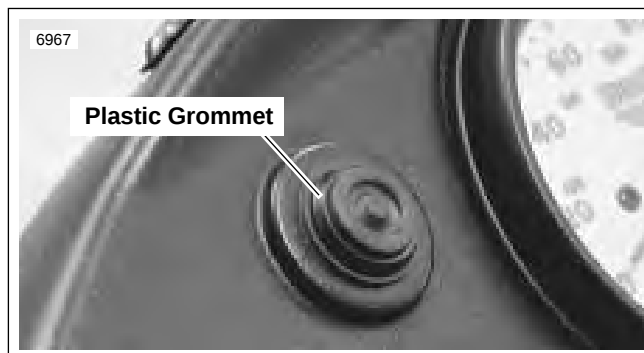

Figure 7-58. Odometer Reset Button
- b. See Figure 7-58. Remove odometer reset (3) from back side of dash panel.
- b. See Figure 7-58. Secure odometer reset button on front of dash panel with plastic grommet.